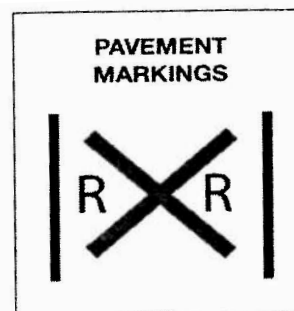

Figure 10.6
**Pavement Markings.** Pavement markings mean the same as the advance warning sign. They consist of an “X” with the letters “RR” and a no-passing marking on two-lane roads. See Figure 10.6.